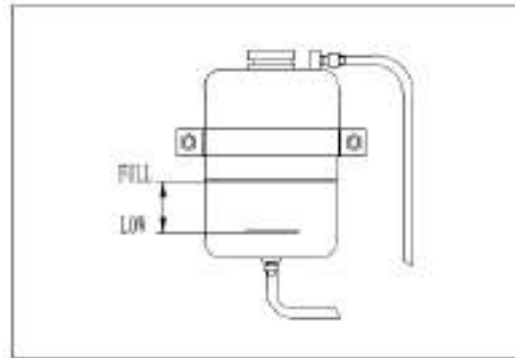

Figure 4-5 Coolant level
b). Check whether the coolant level in the reserve water tank is between the LOW and FULL mark, as shown in Figure 4-5. If the coolant level is too low, add coolant to the FULL mark through the filling port.